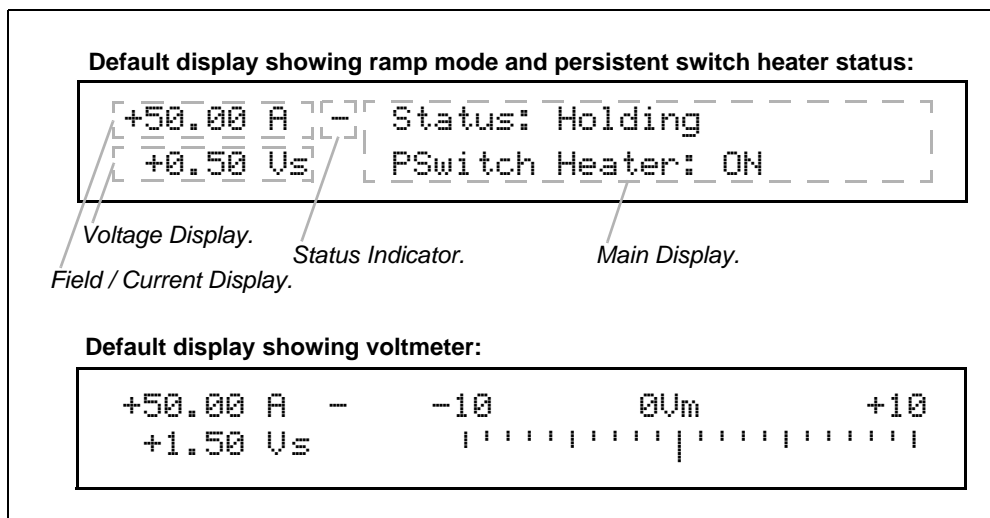

Figure 3-1. Default Display.
The field / current display indicates either the field strength or current¹. This is always displayed in the upper left corner of the display (see Figure 3-1), regardless of what else is being displayed on the Model 430 Programmer display. The parameter displayed (field or current) is toggled by pressing **SHIFT** followed by **FIELD <> CURRENT**. Thus, if field strength is being displayed, pressing **SHIFT** followed by **FIELD <> CURRENT** will cause the current to be displayed; conversely, if current is being displayed, pressing **SHIFT** followed by **FIELD <> CURRENT** will cause the field strength to be displayed. Operating current is always displayed in amperes (A). Operating field strength may be displayed in kilogauss (kG) or tesla (T) if a coil constant has been specified in the setup². If field strength is being displayed, the units (kG or T) in which it is displayed can be toggled by pressing **SHIFT** followed by **FIELD UNITS**.
1. The value is always displayed in current (A) when an installed persistent switch is in the *cooled state* since the value represents power supply current only, independent of magnet current/field.
The voltage display indicates either the voltage across the magnet (V_m) or the power supply output voltage (V_s). This is always displayed in the lower left corner of the display (see Figure 3-1), regardless of what else is being displayed on the Model 430 Programmer display. The parameter displayed (magnet voltage or power supply voltage) is toggled by pressing **SHIFT** followed by **Vs <> Vm**. V_m indicates the voltage measured across the terminals of the connected superconducting magnet. In order for the Model 430 Programmer to measure the magnet voltage, the magnet voltage taps must be connected to the Model 430. Normally this is done through the Magnet Station Cable provided by AMI (if the whole magnet system is provided by AMI). V_s indicates the Model 430 Programmer-controlled power supply output voltage.
The status indicator indicates the Model 430 Programmer operating status. It is always visible (except during a quench condition) and is displayed just to the right of the field / current display (see Figure 3-1). The status indicator may be one of six symbols indicating one of the seven states shown in Table 3-1.
The default main display (the rightmost portion of the display – see Figure 3-1) shows either a voltmeter indicating magnet voltage or ramp mode and persistent switch heater state. Ramp mode is displayed on the top line of the main display; it will be one of eight states, as shown in Table 3-6 on page 78. Persistent switch heater state is displayed on the bottom line of the main display. If the Model 430 Programmer has been setup for use with a persistent switch, it will indicate either ON or OFF for the persistent switch heater state; otherwise, it will display “No PSwitch Installed.”